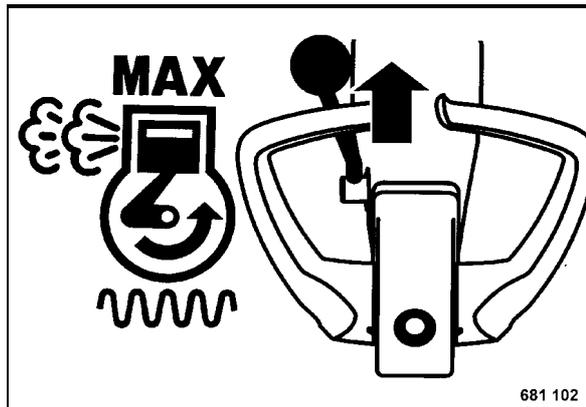

Fig. 41
- Set the throttle lever (Fig. 41) to position "MAX".